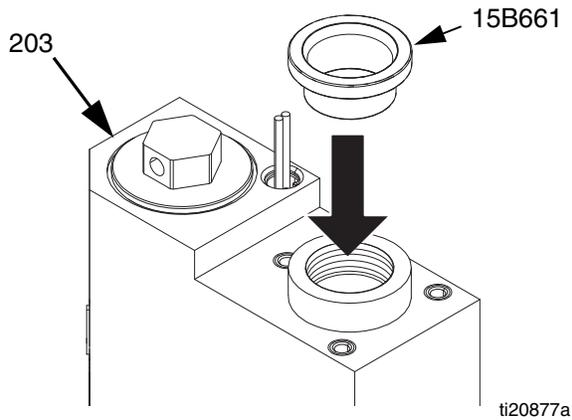

FIG. 28
- c. Install piston valve (222) onto piston rod (223). Torque to 24-30 ft-lb (33-41 N•m).
2. To protect the seals from the sharp threads, place seal installation tool 15B661 into the throat bore. See FIG. 28.
8. Install retaining nut (235). See FIG. 28.